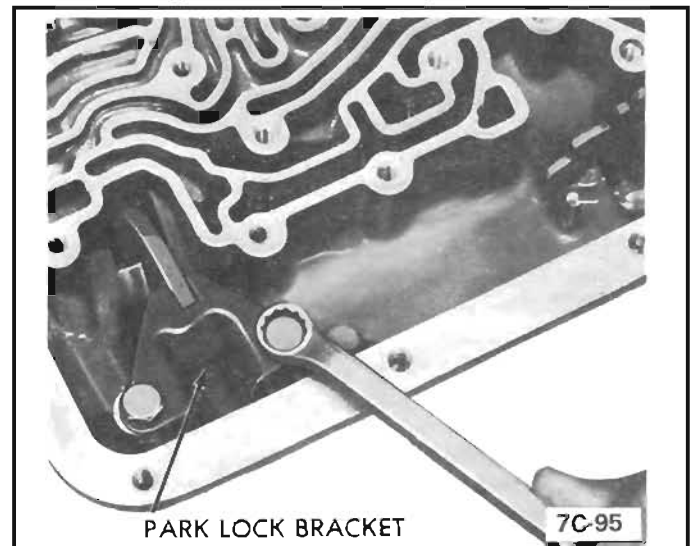

Figure 103 Park Lock Bracket Installation
4. Install park lock bracket, torque bolts to 29 ft. lbs. (39N*m). *See Figure 103.*